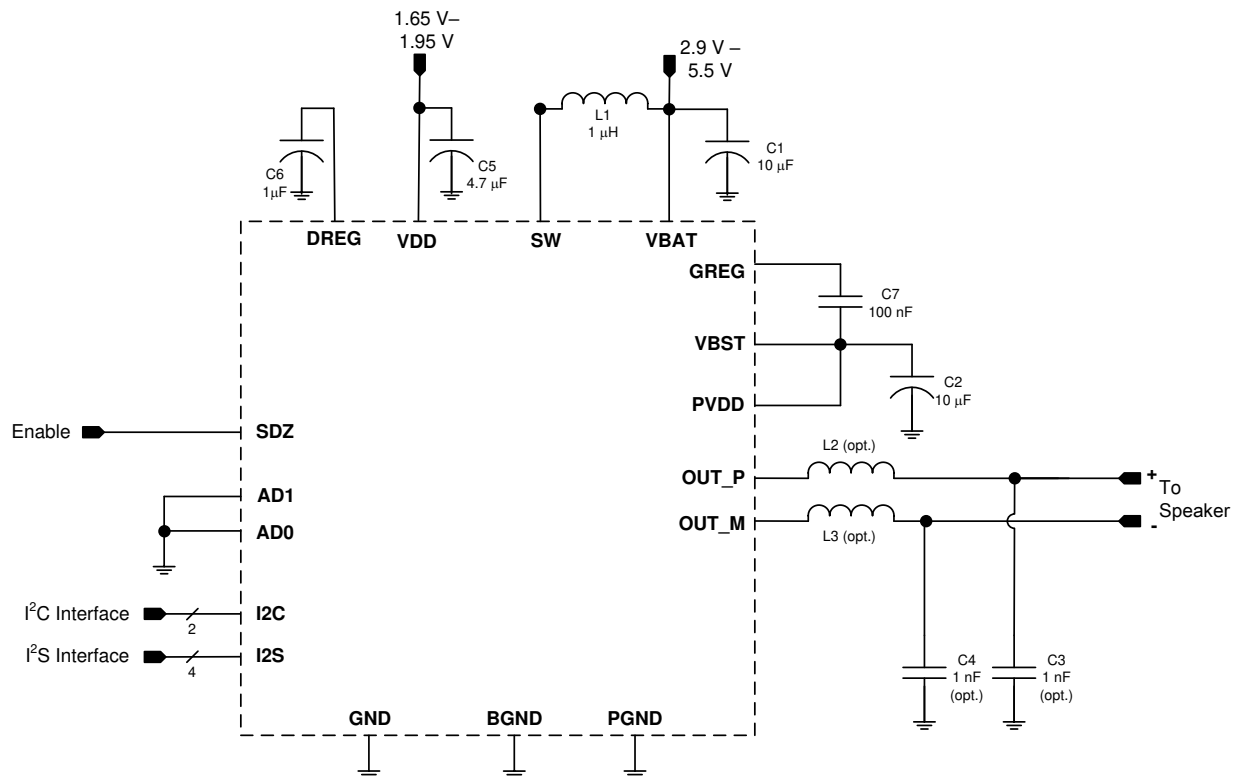

图 50. Typical Application - Digital Audio Input
The boost converter requires three passive devices that are labeled L1, C1 and C2 in 图 50 and whose specifications are provided in 表 272. These specifications are based on the design of the TAS2110 and are necessary to meet the performance targets of the device. In particular, L1 should not be allowed to enter in the current saturation region. The saturation current for L1 should be > ILIM to deliver Class-D peak power.
The system designer may want to include passive devices on the Class-D output . These passive devices that are labeled L2, L3, C3 and C4 in 图 50 and their recommended specifications are provided in 表 272. If C3 and C4 are used, L2 and L3 must also be installed, and C3 and C4 must be placed after L2 and L3 respectively to maintain the stability of the output stage.
The boost supply (VBAT) and associated passives need to be able to support the current requirements of the device. By default, the peak current limit of the boost is set to 4 A. Refer to 表 86 for information on changing the current limit. A minimum of a 10 μ F capacitor is recommended on the boost supply to quickly support changes in required current. Refer to 图 50 for the schematic.
- Use supply decoupling capacitors as shown in 图 50 and described in Power Supplies.